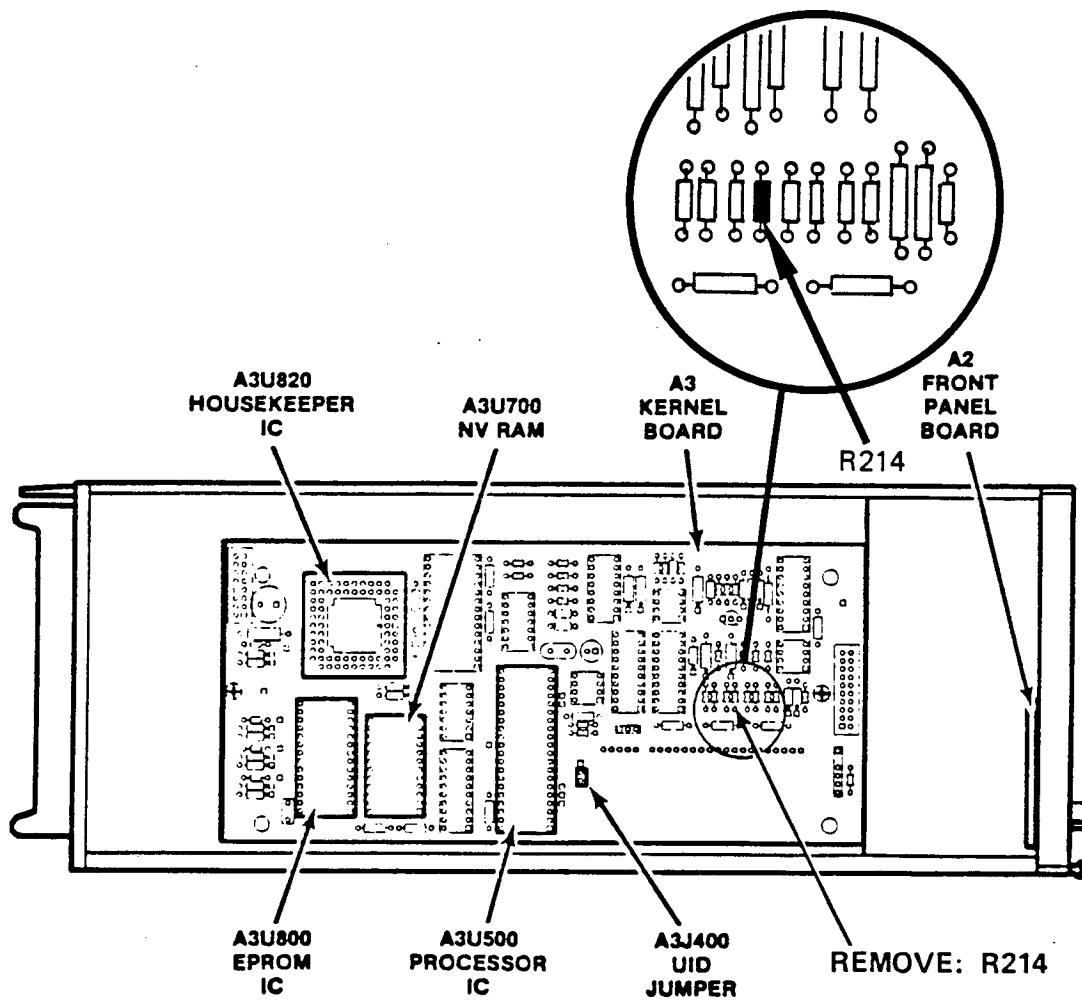

Figure 1. - Component locations Kernel ckt bd.
- ( ) 4. Unsolder R214, and 20k $\Omega$ , resistor from the circuit board, refer to Figure 1, for R214 location. Set the resistor aside for later assembly.
- ( ) 8. Remove A3U800, EPROM microcircuit, using an Insertion - Extraction Pliers (such as General Tool's pn U505BG, a 28-pin type). Position the pliers around the outside of the EPROM microcircuit. Squeeze the handles to grasp the EPROM and slowly pull it from the socket. Refer to Figure 1, for component location.